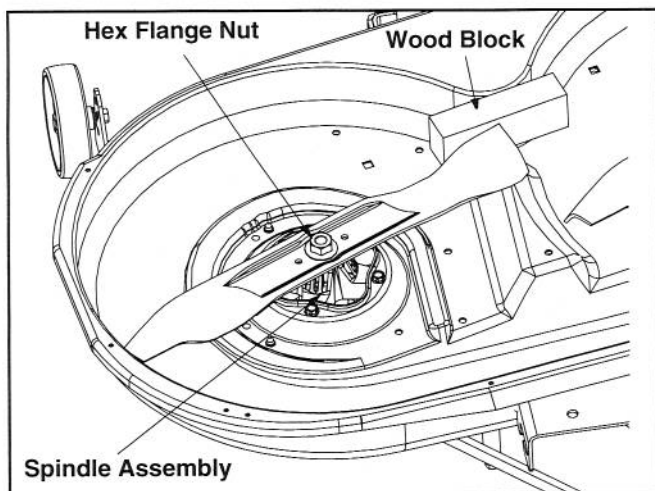

Figure 19
- Place a block of wood between the center deck housing baffle and the cutting blade to act as a stabilizer. See Figure 19.
- Remove the hex flange nut that secures the blade to the spindle assembly. See Figure 19.